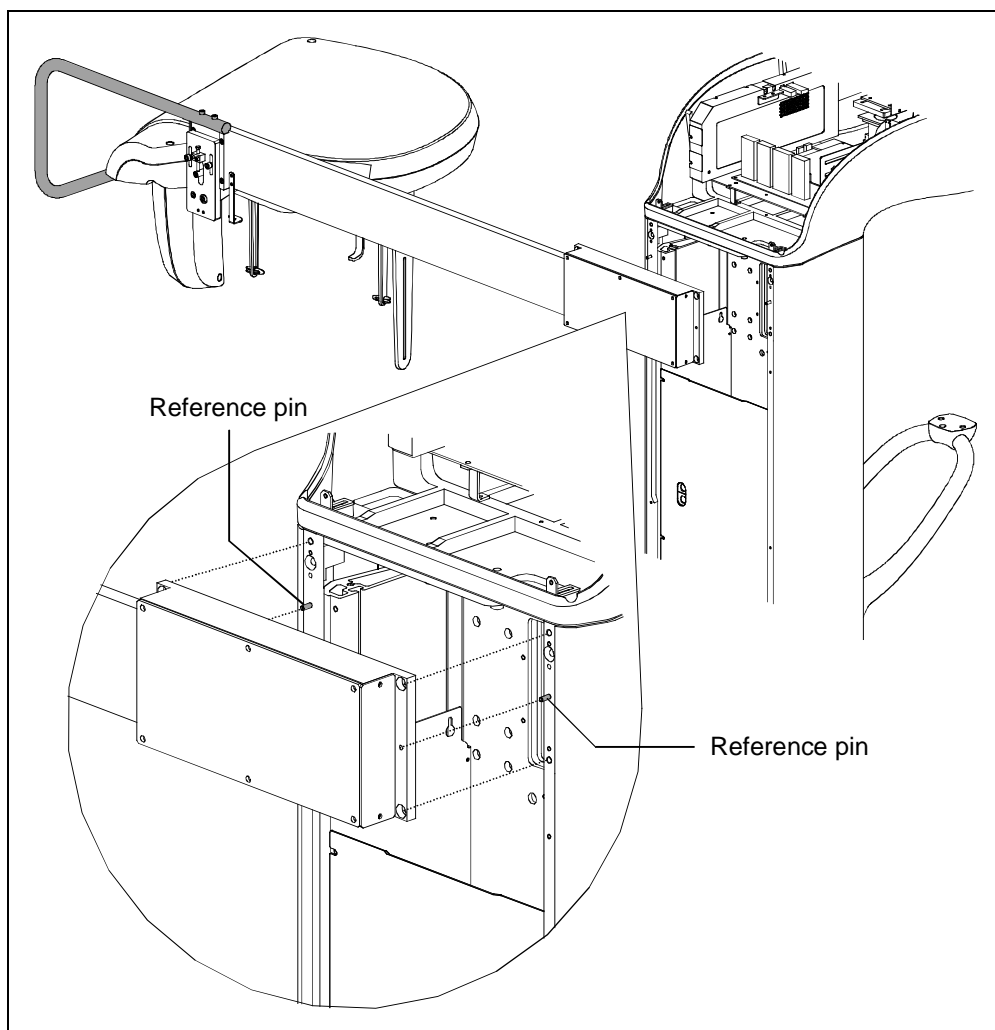

Figure 6-11
4. Position the Ceph arm near the column and using the reference pins and screws, fix the Ceph arm to the column (Figure 6-11).